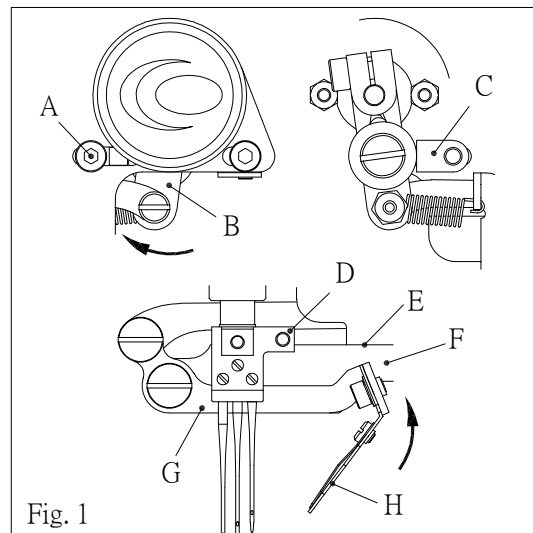
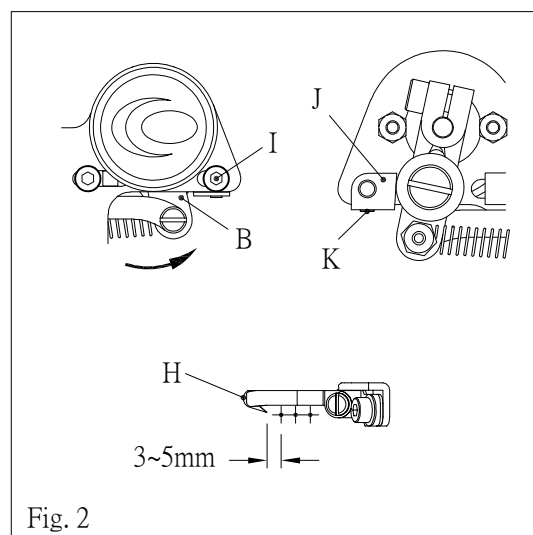
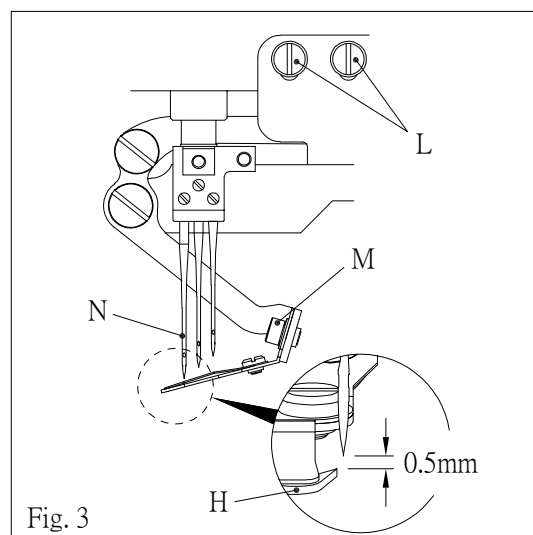

Fig. 1
Fig. 2
Fig. 3
- (2) 調整抓線鉤(H)上死點位置，首先放鬆螺絲(A)，以手擺動驅動臂(B)，使連桿(G)與支架(F)成水平，或依實際需求調整，過程中限動塊(C)須配合定位，最後鎖緊螺絲(A)，調整後連桿(G)與支架邊緣(E)需留有間隙，針留(D)與抓線鉤(H)之間亦是，以避免產生碰撞。（圖 1）
Adjusting hook blade (H) to its upper position, by loosening screw (A), set arm (G) parallel with solenoid support (F) by adjusting driving lever (B) and stop block (C), then, tighten screw (A), after such adjustments, please make sure there should have a tolerance between arm (G) and the edge (E) of solenoid support (F), also there should have a tolerance between needle clamp (D) and hook blade (H) in order to avoid any collision among the parts. (Please refer to figure 1.)
- (3) 調整抓線鉤(H)下死點位置，放鬆螺絲(K)、(I)，擺動驅動臂(B)使抓線鉤(H)與左針中心，左右需有3~5mm的間距，而限動塊(J)須配合定位，接著先後鎖緊螺絲(I)、(K)即可。（圖 2）
Adjusting hook blade (H) lowest position, by loosening screw (K) and (I), setting hook blade (H) passed over 3~5mm from the center of leftest needle, by moving driving lever (B) and stop block (J), then, tighten screw (I) and (K). (Please refer to figure 2.)
- (4) 當抓線鉤(H)至下死點，鉤尖行經左針(N)中心時，兩者上下間距，需有0.5mm，而間距可由螺絲(L)做調整，此外亦可以螺絲(M)作微調，完成後需再檢視第三和第五步驟。（圖 3）
There should have 0.5mm tolerance when hook blade (H) passing thru the center of leftest needle (N) to its lowest position, this tolerance can be obtained by adjusting screw (L) and also can be micro-adjusted by screw (M) and after finished the adjustments, need to double check step (3) and step (5). (Please refer to figure 3.)